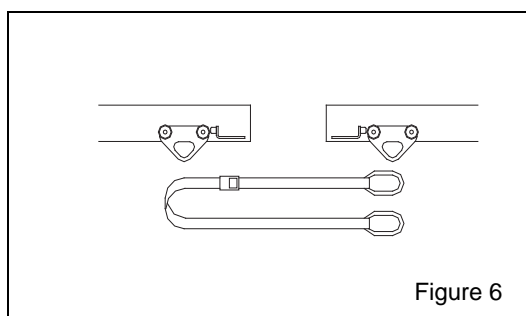

Figure 6
- 4 To adjust correctly the strap length, use two times the distance measured between the trolleys. See figure 6.